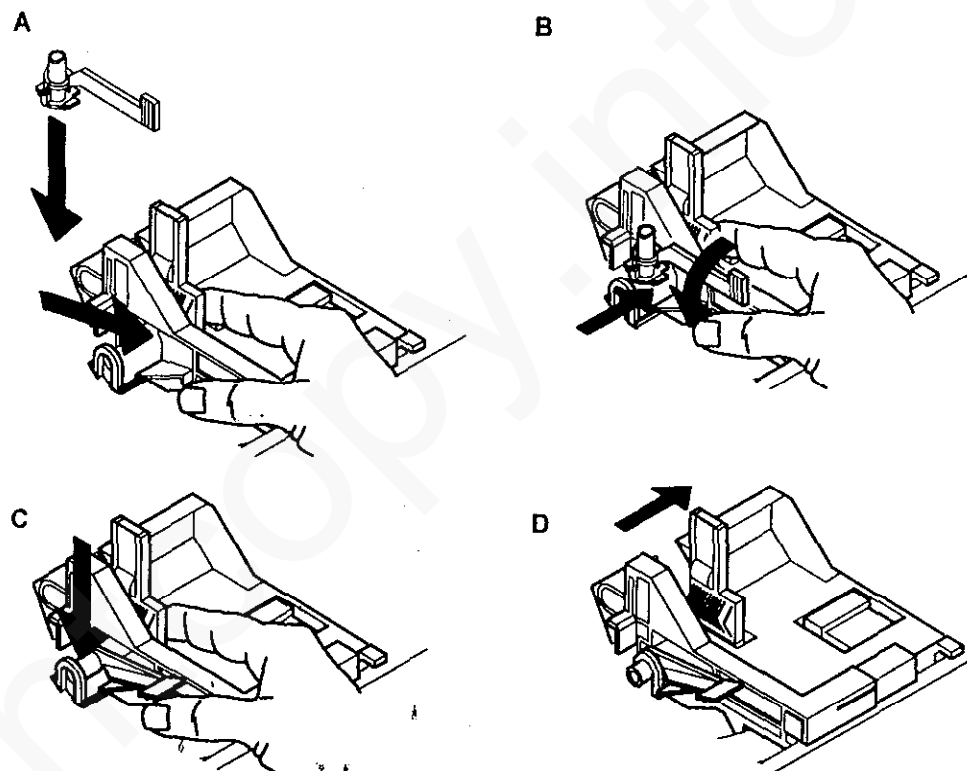

Figure 2 Replacing the Cam Pin
1. Reinstall the Cam Pin (Figure 2, A-D)